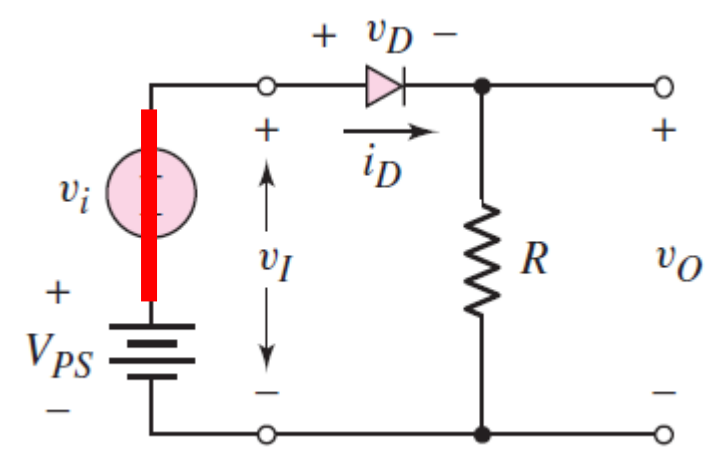

Figure 1.35(a)
- To analyze the circuit shown in Figure 1.35(a), we perform: